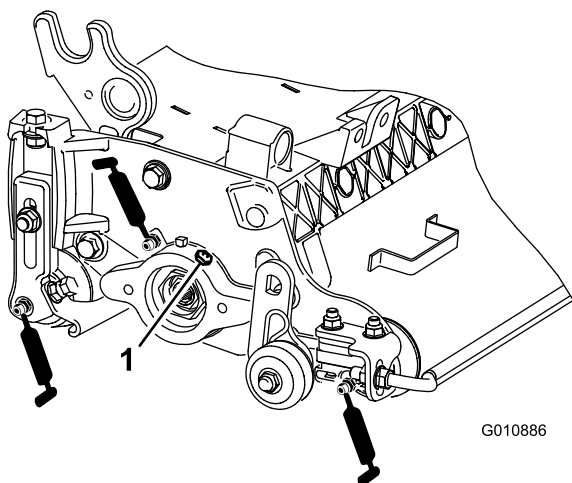

Figure 15
2. Apply grease until clean grease comes out of the roller seals and the bearing relief valve (Figure 15).